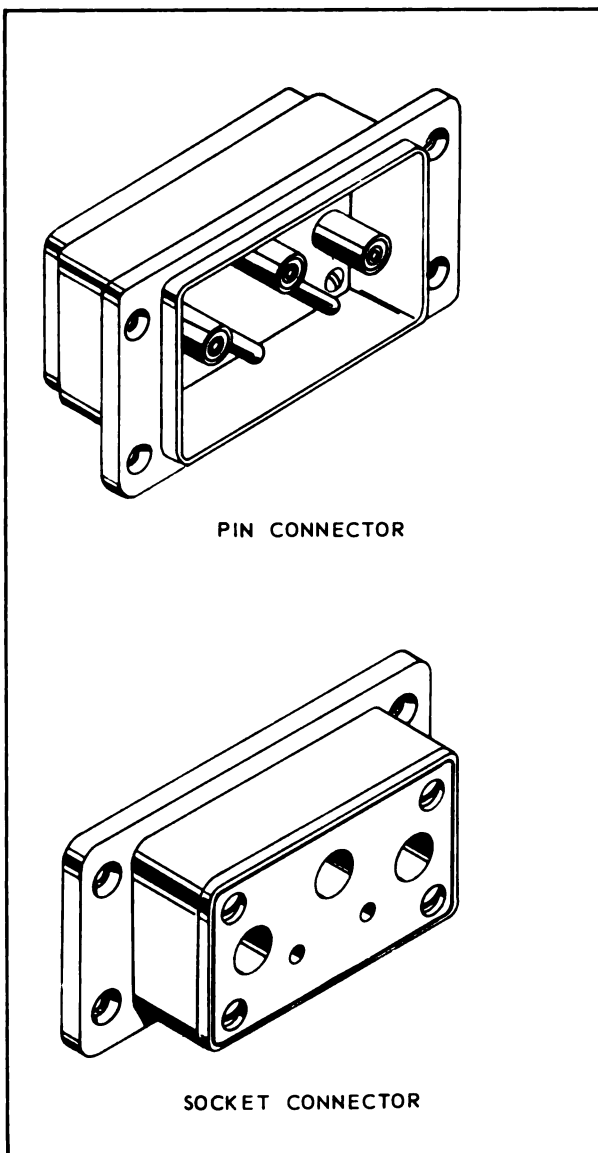

Figure 3-15. Rectangular Shell Connectors
c. Rectangular shell connectors (Bendix SR; Cannon DPD). See figure 3-15. These connectors are flanged for panel or equipment mounting. They consist of an aluminum alloy shell, rigid or resilient insert, and pin or socket contact. They are usually potted to protect connections against moisture at the back of the connector. The mating faces are not moisture sealed.